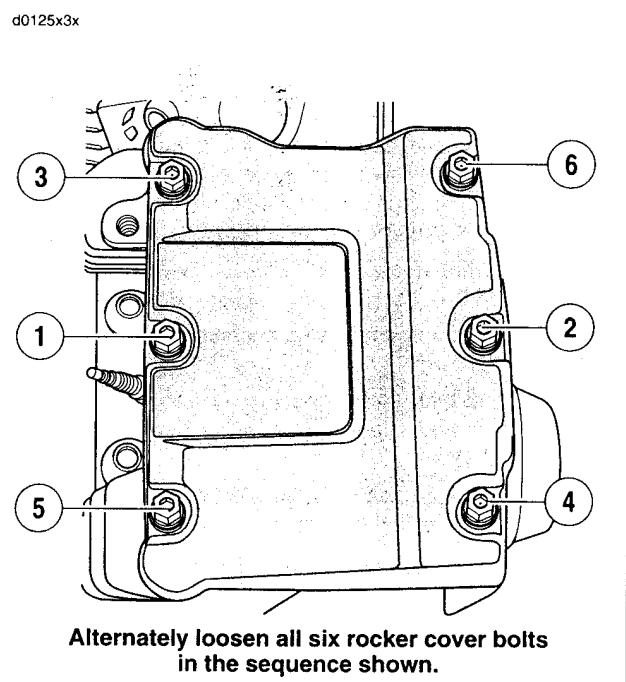

Figure 3-18. Rocker Cover Bolt Removal
2. See Figure 3-18. Following the sequence shown, alternately loosen the six rocker cover bolts. Remove the rocker cover bolts and their captive washers.